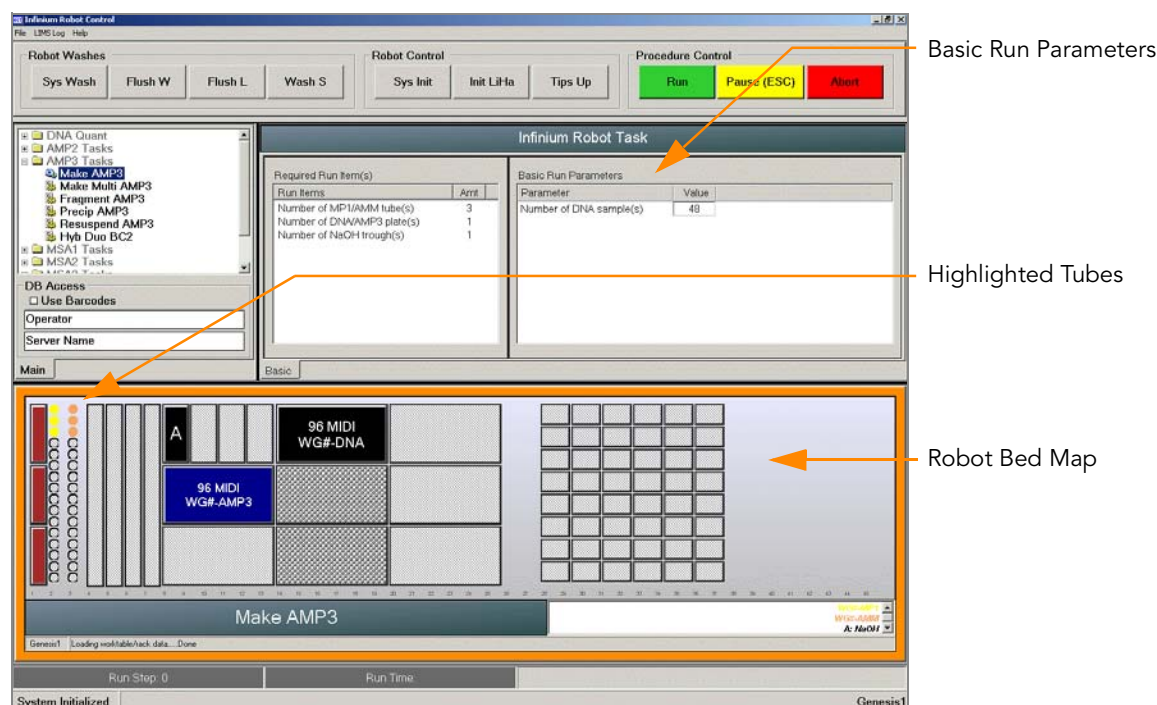

Figure 101 Make AMP3 Basic Run Parameters
5. Remove the caps. Place the MP1 and AMM tubes in the robot tube rack according to the robot bed map (Figure 101).
6. Place a quarter reservoir on the robot bed according to the bed map, and add 15 ml 0.1N NaOH (Figure 101).
10. Place the AMP3 and WG#-DNA plates on the robot bed according to the bed map (Figure 101). Remove all plate seals.